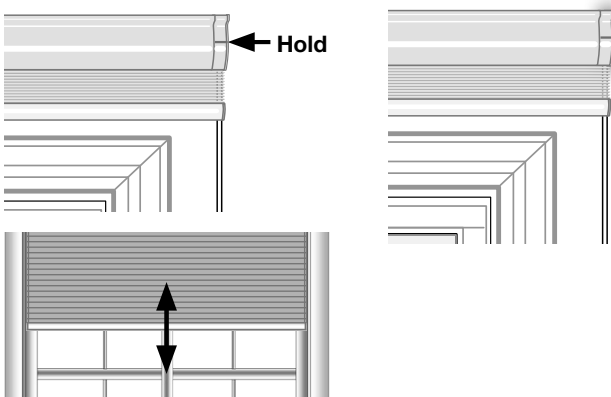

Fig. 23
B. Press and hold the program button on the headrail/motor end until the LED flashes green (about three seconds), and release. The shade will jog and all LEDs will turn off. The shade will now operate from the newly added remote. (Fig. 23)